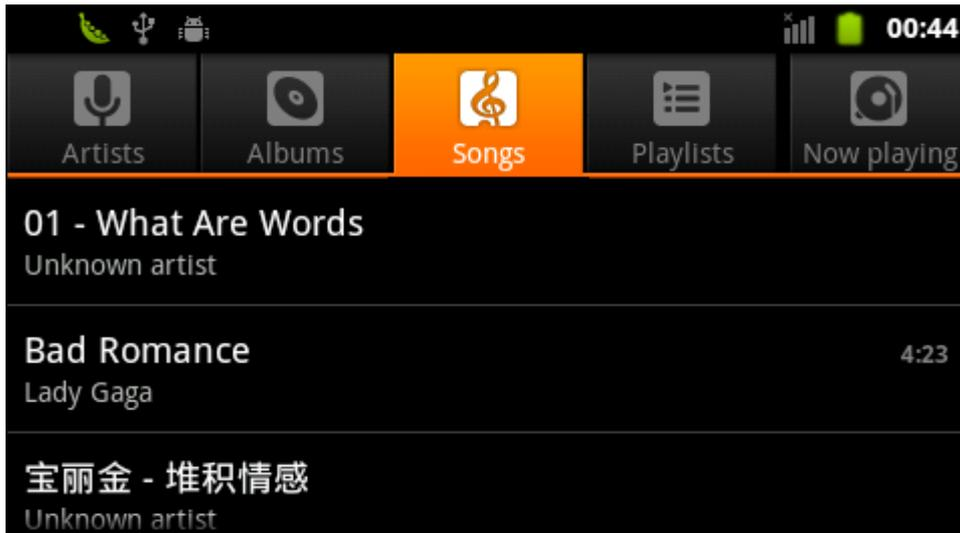

Figure 5-23
(2) Select "Songs" option. Refer to figure 5-23: